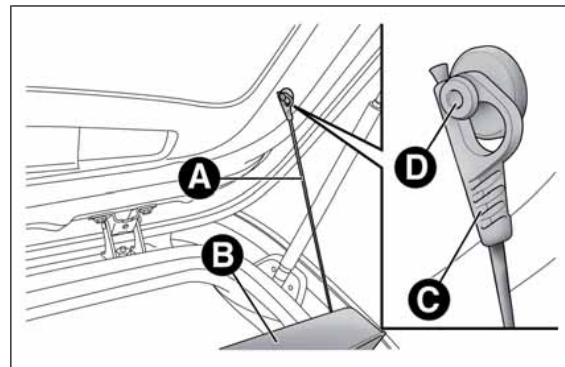

fig. 64
- free the ends of the two parcel shelf B mounting links A fig. 64 by removing the eyelets C from the mounting pins;